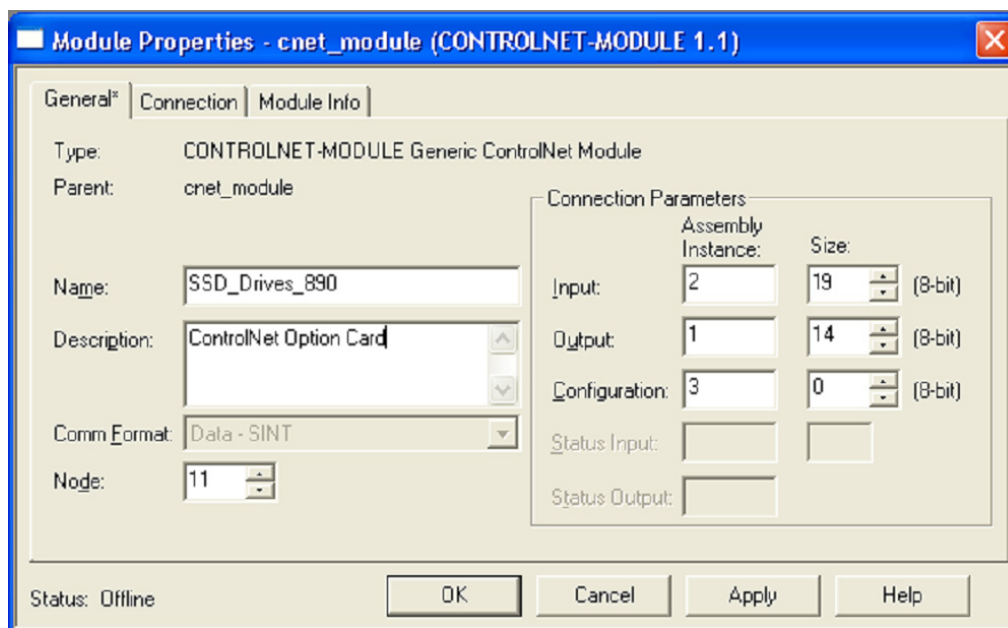

Figure 14. Defining the Module Name and Data Size
5. The input assembly instance is 2 and the output assembly instance is 1. Set the size as appropriate for your configuration. The configuration instance is 3 and the size is 0. The comms format is set for "DATA-SINT" to allow transfer of 8-bit bytes. Refer to Figure 14.